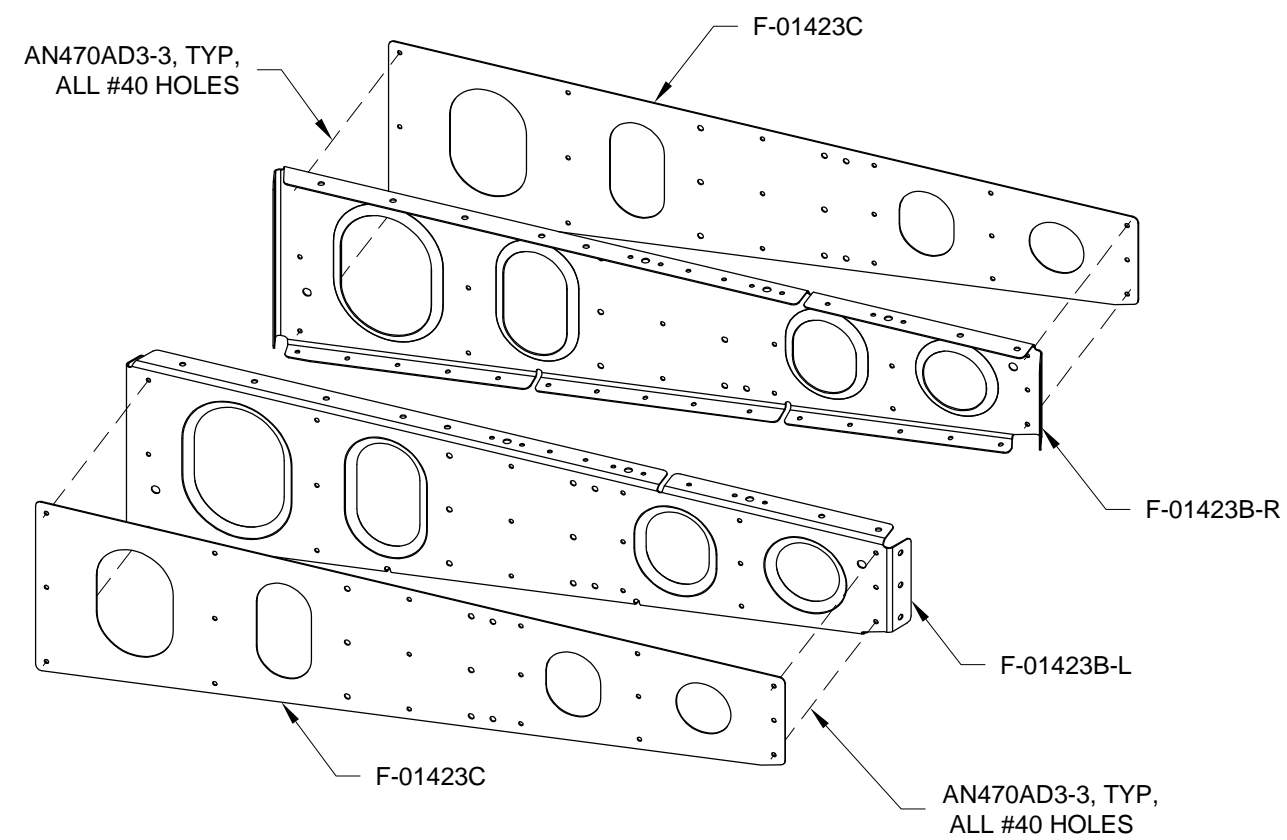

FIGURE 1: OUTBOARD BAGGAGE RIBS
Step 1: Rivet one F-01423C Rib Doubler to each of the F-01423B-L & -R Outbd Baggage Ribs as shown in Figure 1.